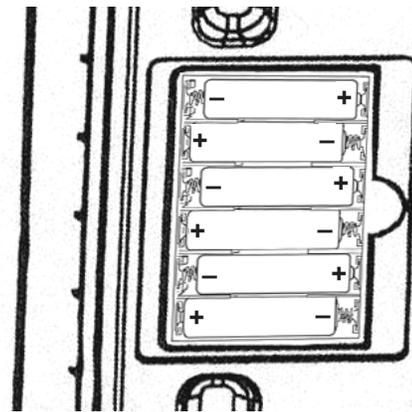

Figure No. 22
3. If installing new batteries, proceed to step 4. If replacing the batteries, remove all six (6) batteries from the battery holder and then proceed to step 4.
4. Install the six (6) new "AA" size batteries in the battery holder, noting the polarity markings located in the battery holder. See Figure No. 22.